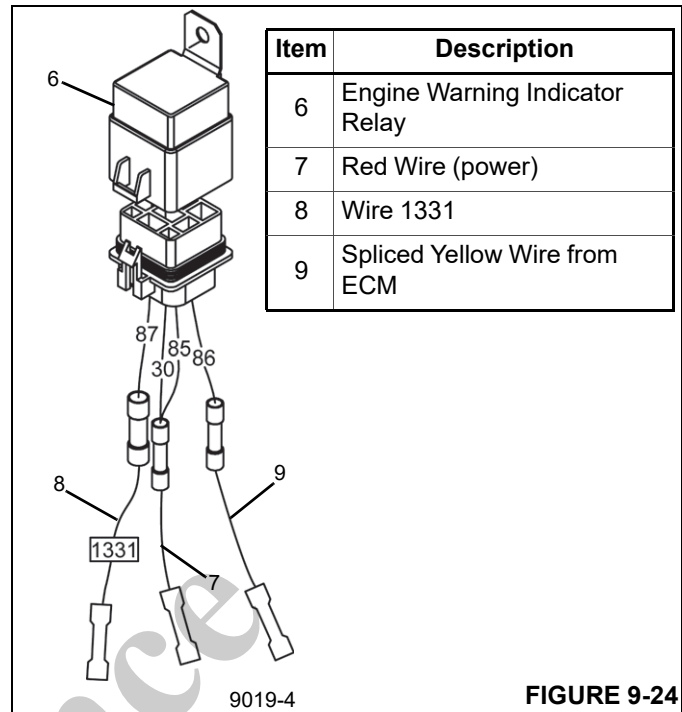

FIGURE 9-24
11. Install the engine warning indicator relay (6, Figure 9-24) to the engine side of the firewall. Route the red wire (7) that was spliced into wire 901 in step 5 through the truck's firewall and connect it to terminals 30 and 85 of the relay. Connect wire 1331 (8) to terminal 87 of the engine warning indicator relay. Splice the yellow wire (9) into the wire present at pin 72 (12, Figure 9-22) of ECM connector J2 and connect the free end to terminal 86 of the engine warning indicator relay. All splices must be made using a butt connector with heat shrink